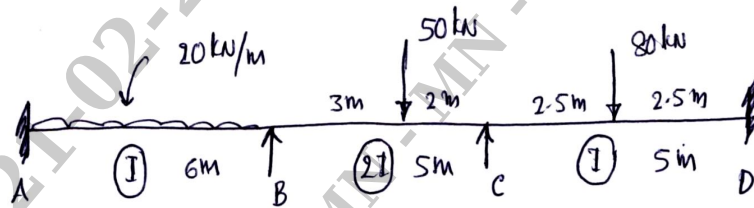

Fig.Q.1
- 1 Analyze the continuous beam shown in Fig.Q.1 by slope deflection method. Draw BMD and SFD. (20 Marks)